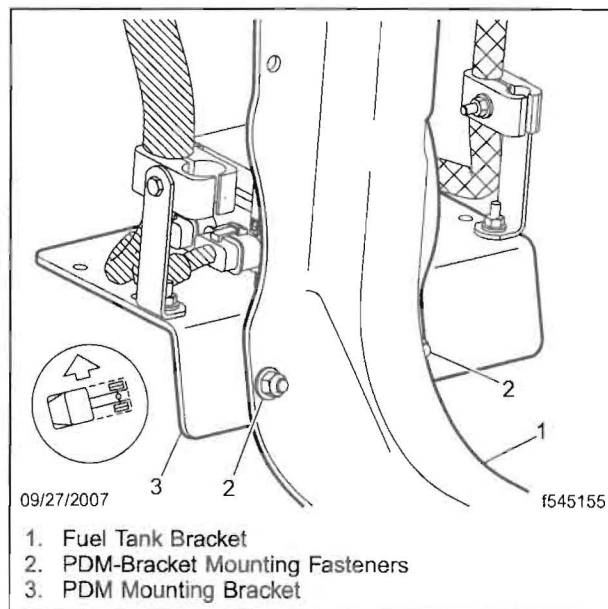

Fig. 3, PDM Mounting Bracket Installation
8. Remove and discard the two bolts and nuts that hold the PDM mounting bracket to the fuel-tank bracket. See Fig. 3.